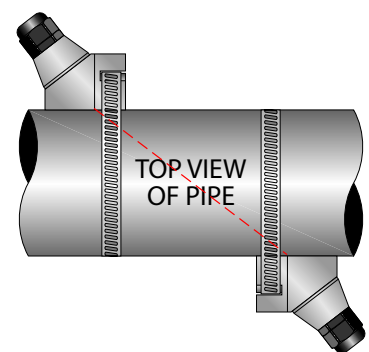

Figure 21: Z-Mount transducer placement
7. Place the downstream transducer on the pipe at the calculated transducer spacing. See *Figure 21*. Using firm hand pressure, slowly move the transducer both towards and away from the upstream transducer while observing signal strength. Clamp the transducer at the position where the highest signal strength is observed. A signal strength between 5...98 is acceptable.